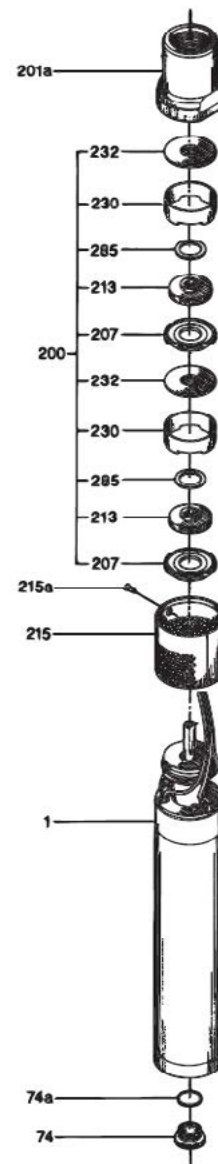

Fig. 12 Pump components
Procedure (see fig. 12):
1. Fit the seal (pos. 207) to the intermediate ring (pos. 230). The dogs of the intermediate ring must engage with the seal.
2. Position the intermediate ring and the seal on the motor with suction interconnector (pos. 1).
3. Fit the impeller (pos. 213) to the shaft and push it against the seal (pos. 207). The skirt of the impeller must fit into the hole of the seal.
4. Fit the washer (pos. 285) to the impeller.
5. Fit the guide vanes (pos. 232) to the intermediate ring.
7. Push the pump housing (pos. 201a) over the wear parts including impellers (pos. 200) and screw it on the suction interconnector on the motor (pos. 1). See fig. 12.
9. Push the strainer (pos. 215) over the pump housing, and press it against the motor. Turn the strainer to the right so that the hole of the strainer and that of the pump housing are in the same position.
10. Fit and tighten the screw (pos. 215a).